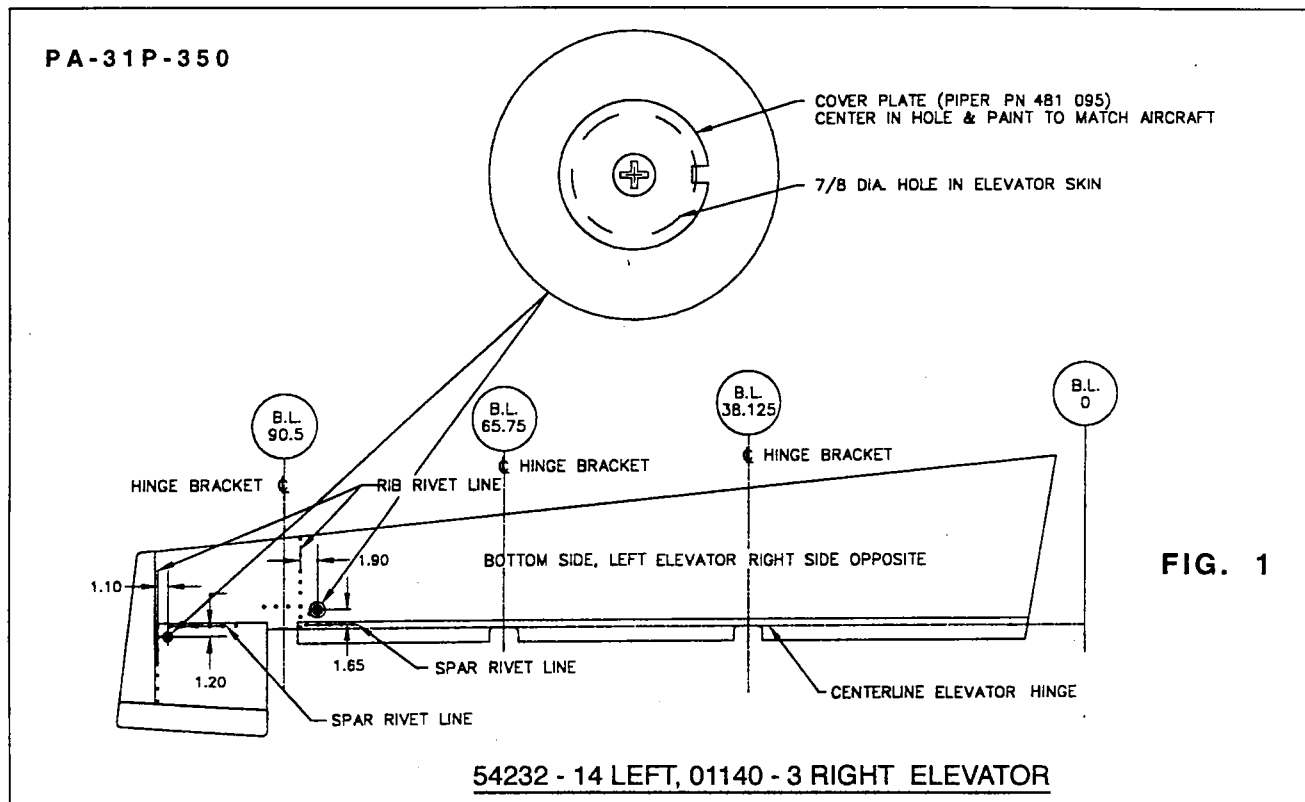

FIG. 1
**Elevator Spar Inspection:** (Refer to Sketch C Fig. 1)